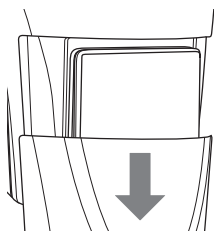

Fig. 1
- ♦ Slide the protective cover **11** downwards and remove it (see Fig. 1).